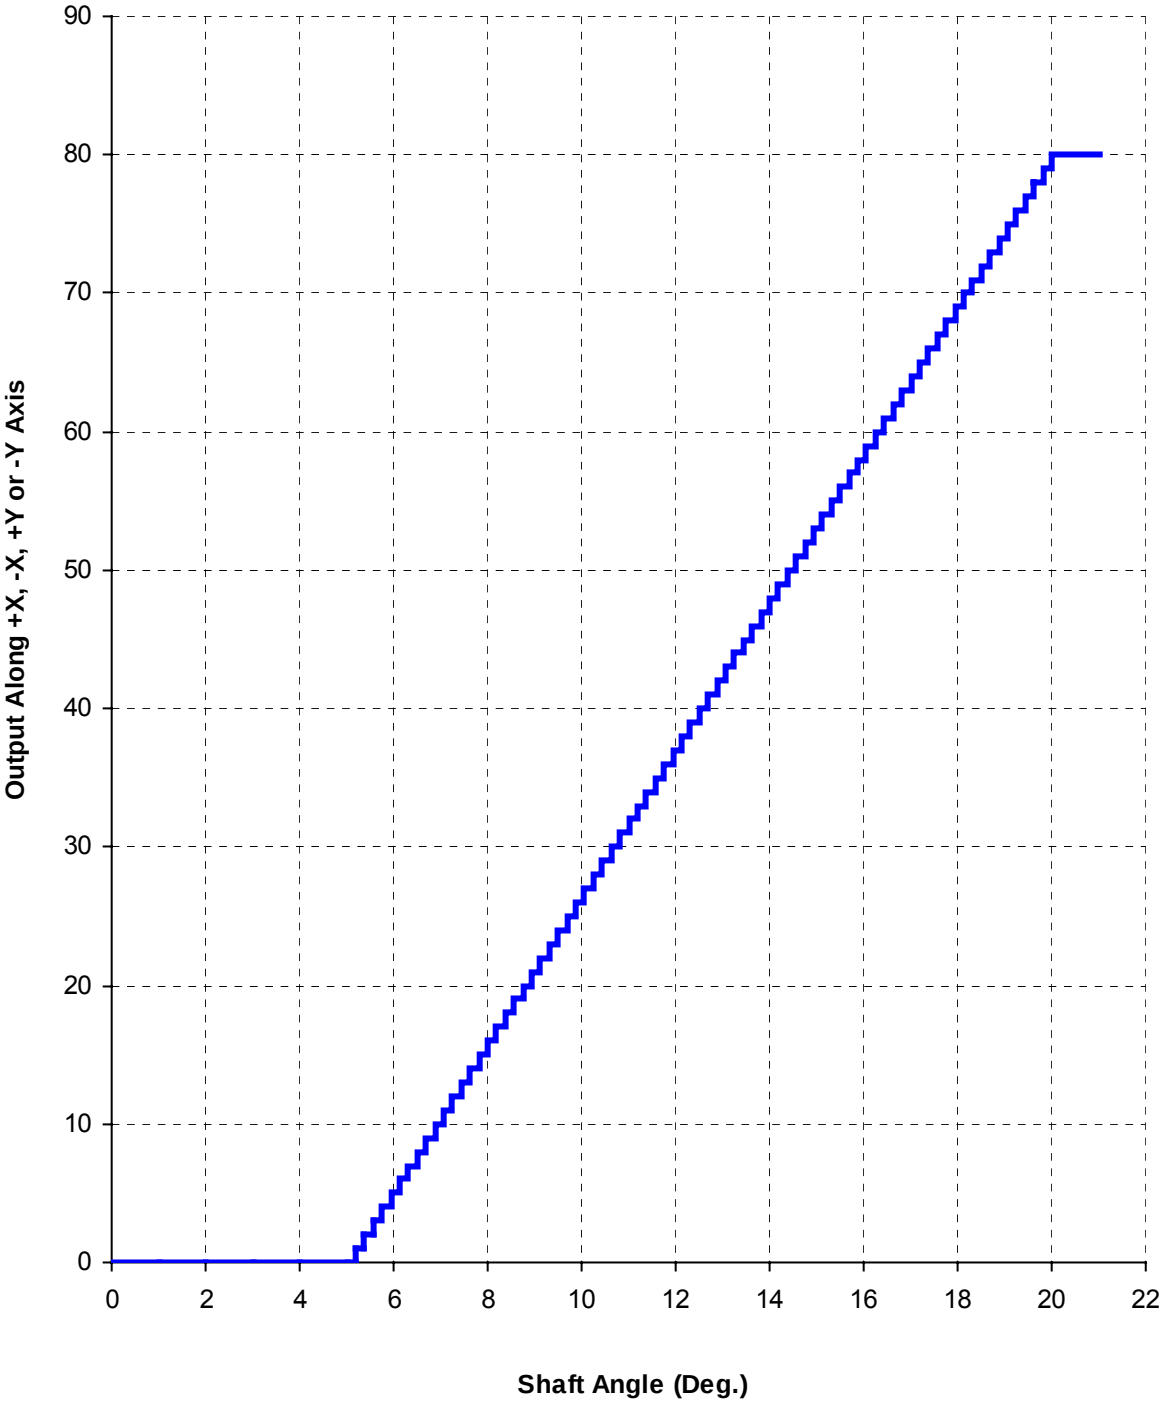

FIG. 6 – Joystick Output Along X or Y Axis vs. Shaft Angle (Typical)
- 4.3 **Low Power (Sleep) Mode:** When the joystick position for both X and Y is within a circle defined as the Sleep Zone for ten consecutive measurements the joystick goes to the Low Power mode where power is significantly lower. The Sleep Zone typically extends to a joystick shaft angle of  $5^\circ$  from the center (See Fig. 6). The last XY value output before entering the Low Power mode is (0,0). As long as the joystick remains within the circle defined by the threshold, the joystick will remain in the Low Power Mode and INTn will stay high. When the joystick is moved outside of the Sleep Zone circle, it returns to the Full Power mode, new XY measurements are available every 20 ms and power consumption increases. Low Power (Sleep Mode) current may be higher if supply voltage drops below 2.9V.
| 9/18/12  | 1.1 | SAK  | Replaced Fig. 6 (Joystick Output vs. Shaft Angle) with more accurate graph and changed graph labels. |